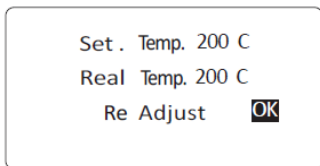

Fig.3
6.1 In the function setting menu, move cursor to the "Cal. Status." mode then press the knob. Move cursor to the "Real Temp" , input the real temperature, move cursor to the "OK" (see fig 3) then press knob confirm it. Press knob to the next menu, choose the "Save & Exit" save the temperature and exit menu.